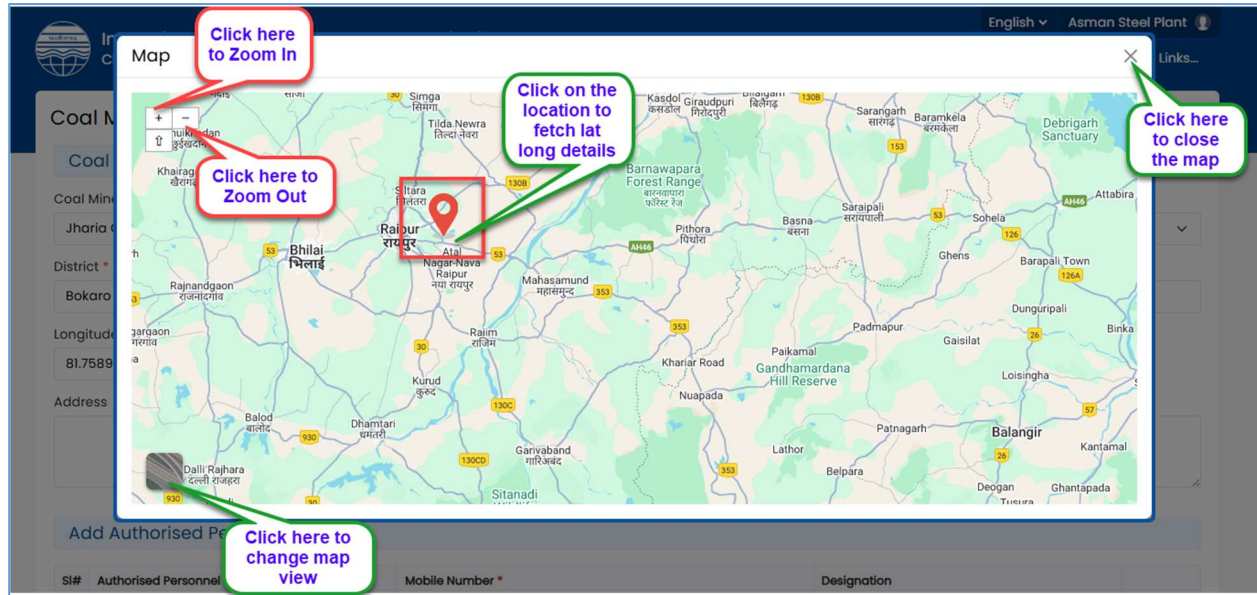

Figure 3-45 Map Screen
- To fetch the Lat-Long details, click on the location in the map as displayed in **Fig 3-45**.